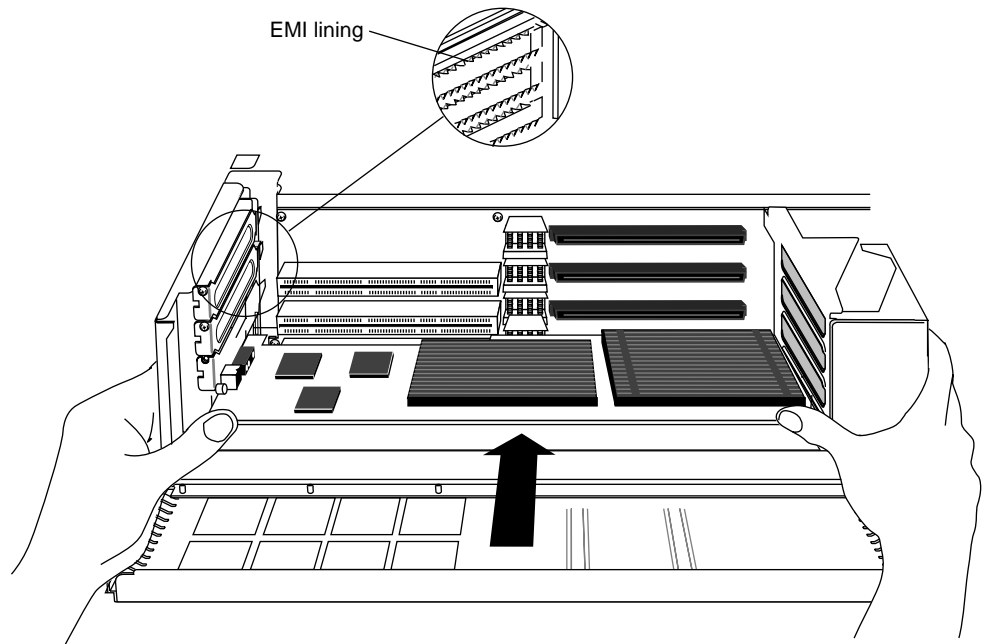

Figure 5-59 Inserting the Solid IMPACT Graphics Board
- Grasp the chassis with your fingers and push the board set into place with your thumbs. See Figure 5-59.